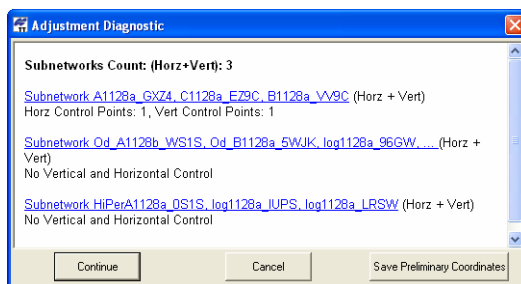

Figure 6-19. Messages After Analysis of the Net Components
- If a severe error exists, the network adjustment will stop for ALL components of the network and the *Adjustment Diagnostic* dialog box will display (Figure 6-19). For every component, the dialog box shows the existence/absence of horizontal and vertical control point(s).